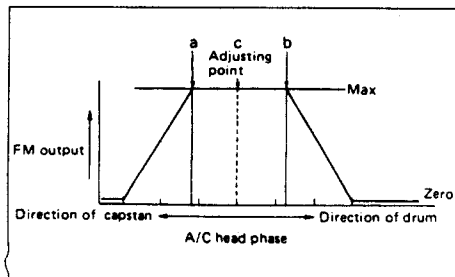

Fig. 2-5-8 Phase adjustment point of control head
2. Operate the tracking button in the manual tracking mode and confirm that the FM output level is maximum at the center position of the tracking button as shown in Fig. 2-5-8.
3. If necessary, slightly loosen the setscrews ④ and ⑤ and insert the tip of the A/C head positioning tool into the notch and guide hole to move the A/C head fully in the direction of the capstan to the extent.
4. Gradually move the A/C head toward the drum to find the position where the FM output level maximum for the first time (a - b in Fig. 2-5-8).
5. Fine adjust the phase of the A/C head and tighten the setscrews ④ and ⑤ at the point c which is the midpoint between a and b.